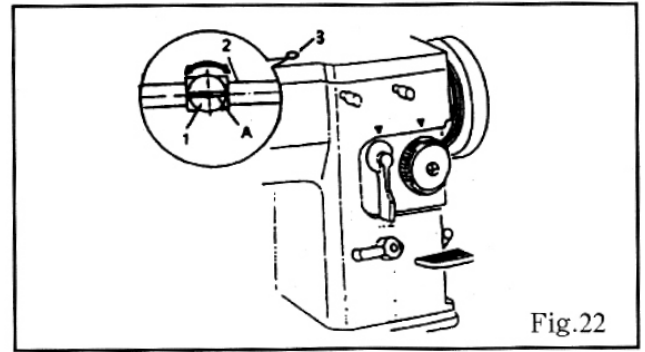

Fig.22
18. TO MOUNT THREAD UNWINDER (Fig.22)